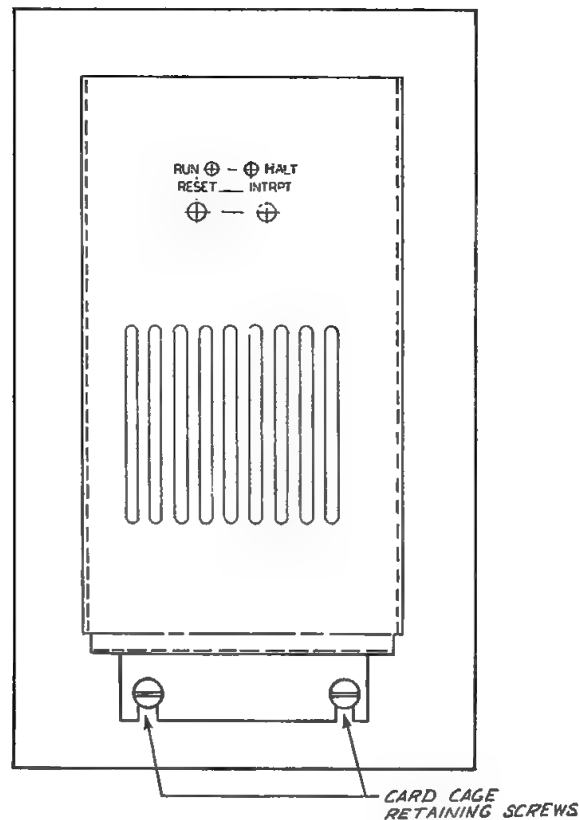

Figure 4-3. Cardcage Front View
- f. Using a long screwdriver, remove the five cardcage retaining screws, see Figures 4-3, 4-4, and 4-5.